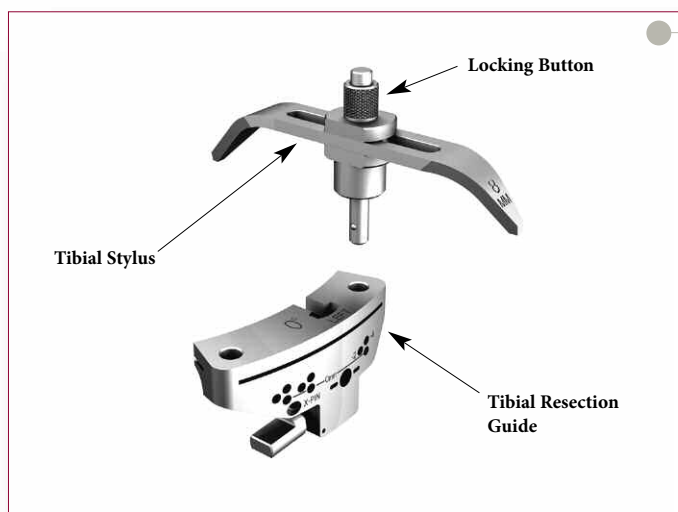

Figure 49
- Assemble the tibial stylus onto the Tibial Resection Guide by depressing the button on the top of the Tibial Stylus, inserting the stylus into either the medial or lateral holes on the top of the Tibial Resection Guide and releasing the button to lock the stylus into place (**Figure 49**).